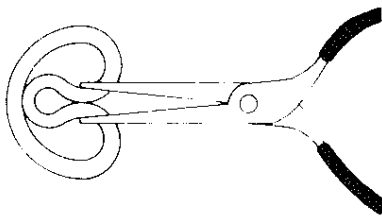

Figure G-5. Rod Seal Installation
- 6 Position the head with the rod wiper pocket up. Grasp the dynamic rod seal (No. 3) with the needle-nose pliers (Figure G-5).